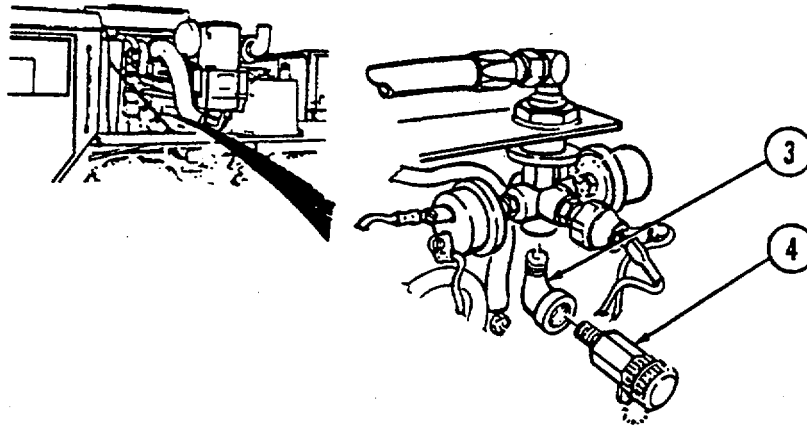

Figure 2. Engine Oil Sampling Valve Installation.
- (2) Apply antizeizing tape and install 45-degree elbow (3), reducer bushing (4), and high-pressure sampling valve (5) on slave steering gear assembly (2).
15. **MATERIAL CHANGE (MC) NUMBER.** This MWO is authorized by MC number 1-87-06-4137.
16. **MODIFICATION IDENTIFICATION.** The installation of the engine oil sampling valve, transmission oil sampling valve, and the slave steering gear sampling valve is illustrated in *Figures 2, 4, and 6*, respectively.